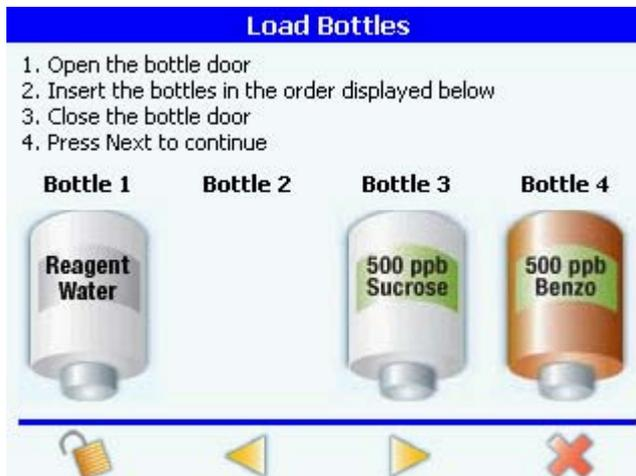

Figure 6-19 Load bottles dialog box, system suitability test
- 6) Install the standards bottles following the instructions as shown in the load bottles dialog box and ensuring that you place the standards bottles in the correct positions. See Figure 6-19. From left: